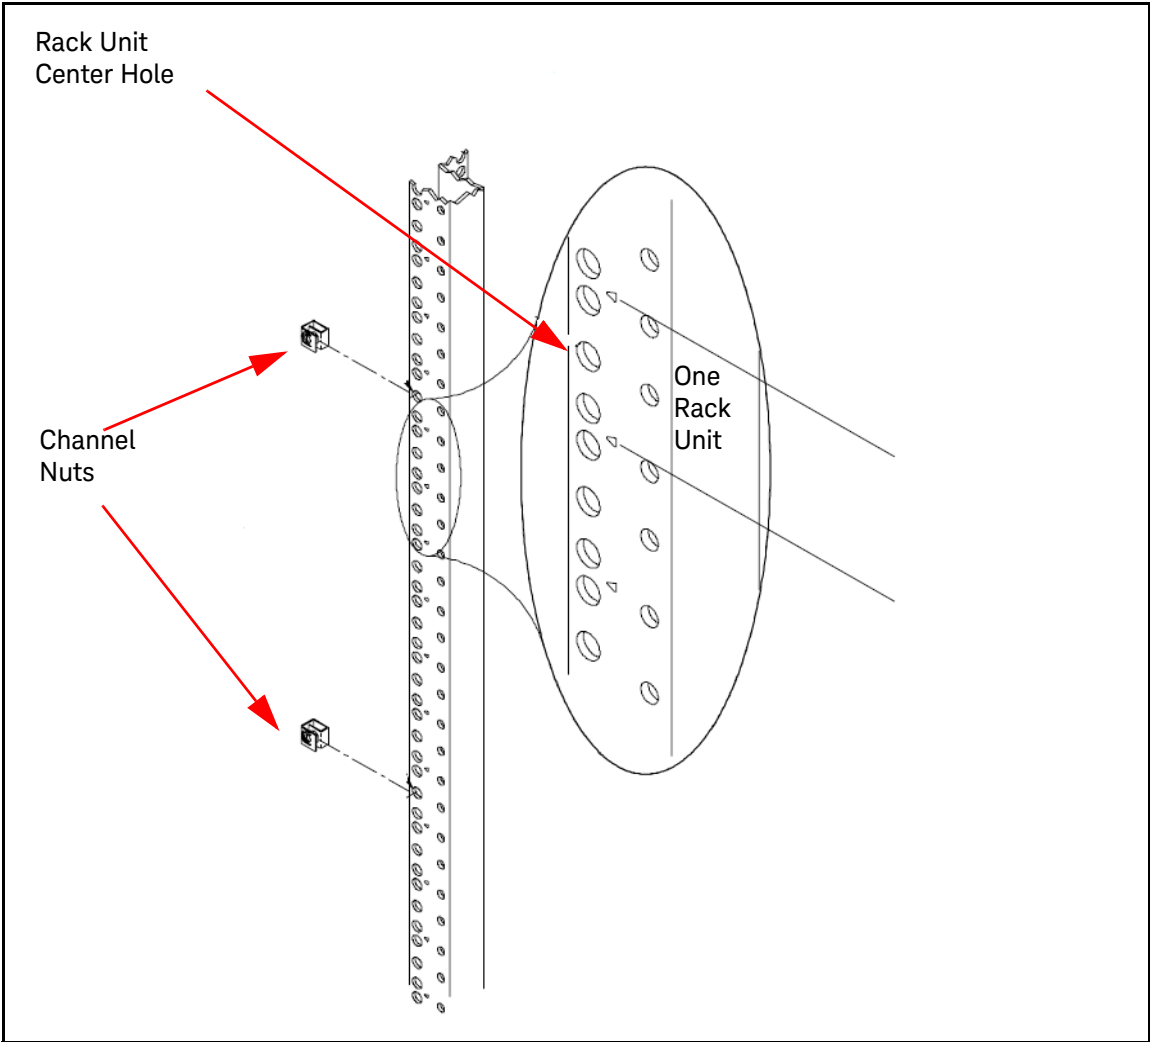

Figure 2 Center Holes of EIA Rack, Attaching Channel Nuts
- 3 Using the rack mount flanges as templates, position the flanges on the rack's vertical columns where the chassis is to be mounted. Align the adapter holes over the "center" holes of the EIA rack units. Slide channel nuts over the rack holes to be used by the rack mount flanges. See Figure 2.